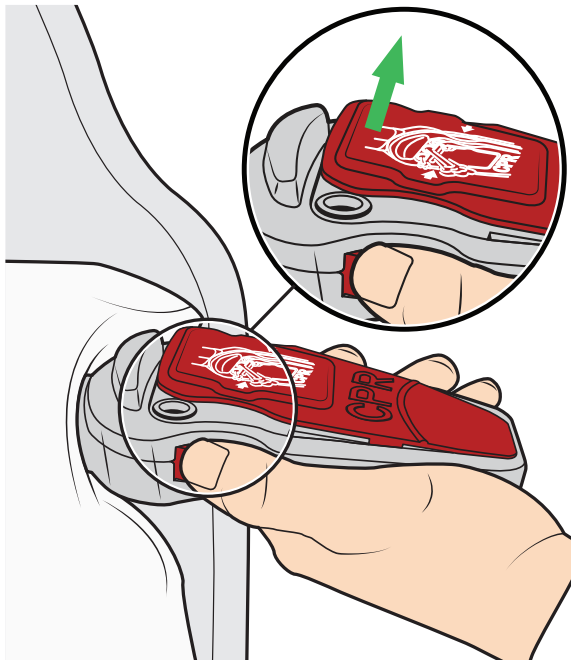

Figure 26
2. Make sure the front part of the CPR rapid deflation unit is open. See Figure 26